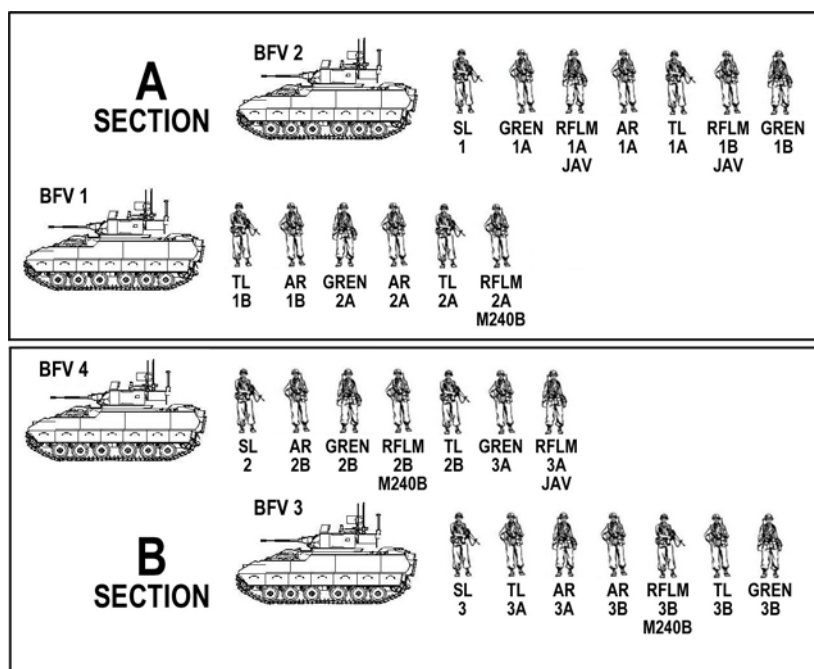

Figure A-2. Rifle squad vehicle assignment.
b. The BFV platoon has three rifle squads. Each rifle squad consists of two four-man fire teams and a squad leader (Figure A-2, page A-2) and has a command launch unit for the Javelin and an M240B machine gun. Two riflemen in the squad are trained and